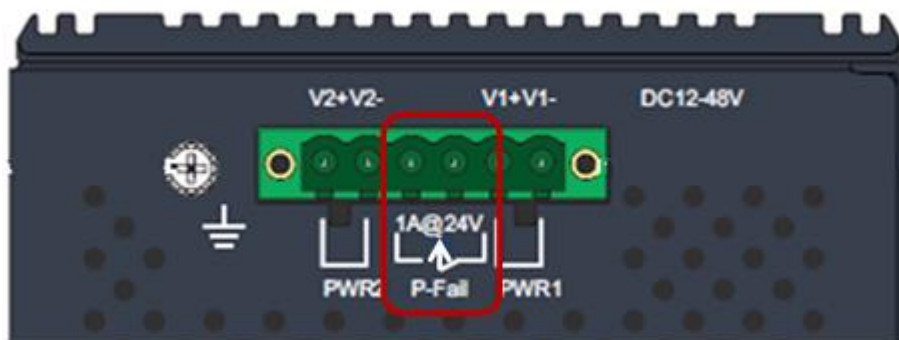
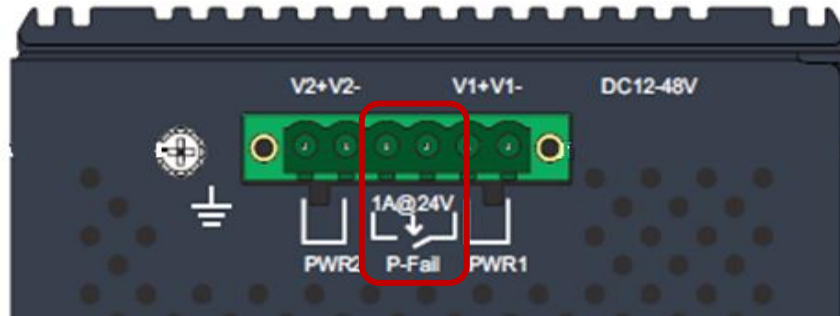

Figure 1. P-Fail graphic expression (Close)
Figure 2. P-Fail graphic expression (Open)
P-Fail relay has two action modes. Users can distinguish it by expressions on switches, and please refer to the **Figure 1** and **Figure 2**.
1. As the expression of figure 1 describes, the arrow directs inward of the P-Fail which means the relay circuit is *CLOSED* when P-Fail is triggered.
- As the expression of **Figure 2** describes, the arrow directs outward of the P-Fail which means the relay circuit is *OPENED* when P-Fail is triggered.